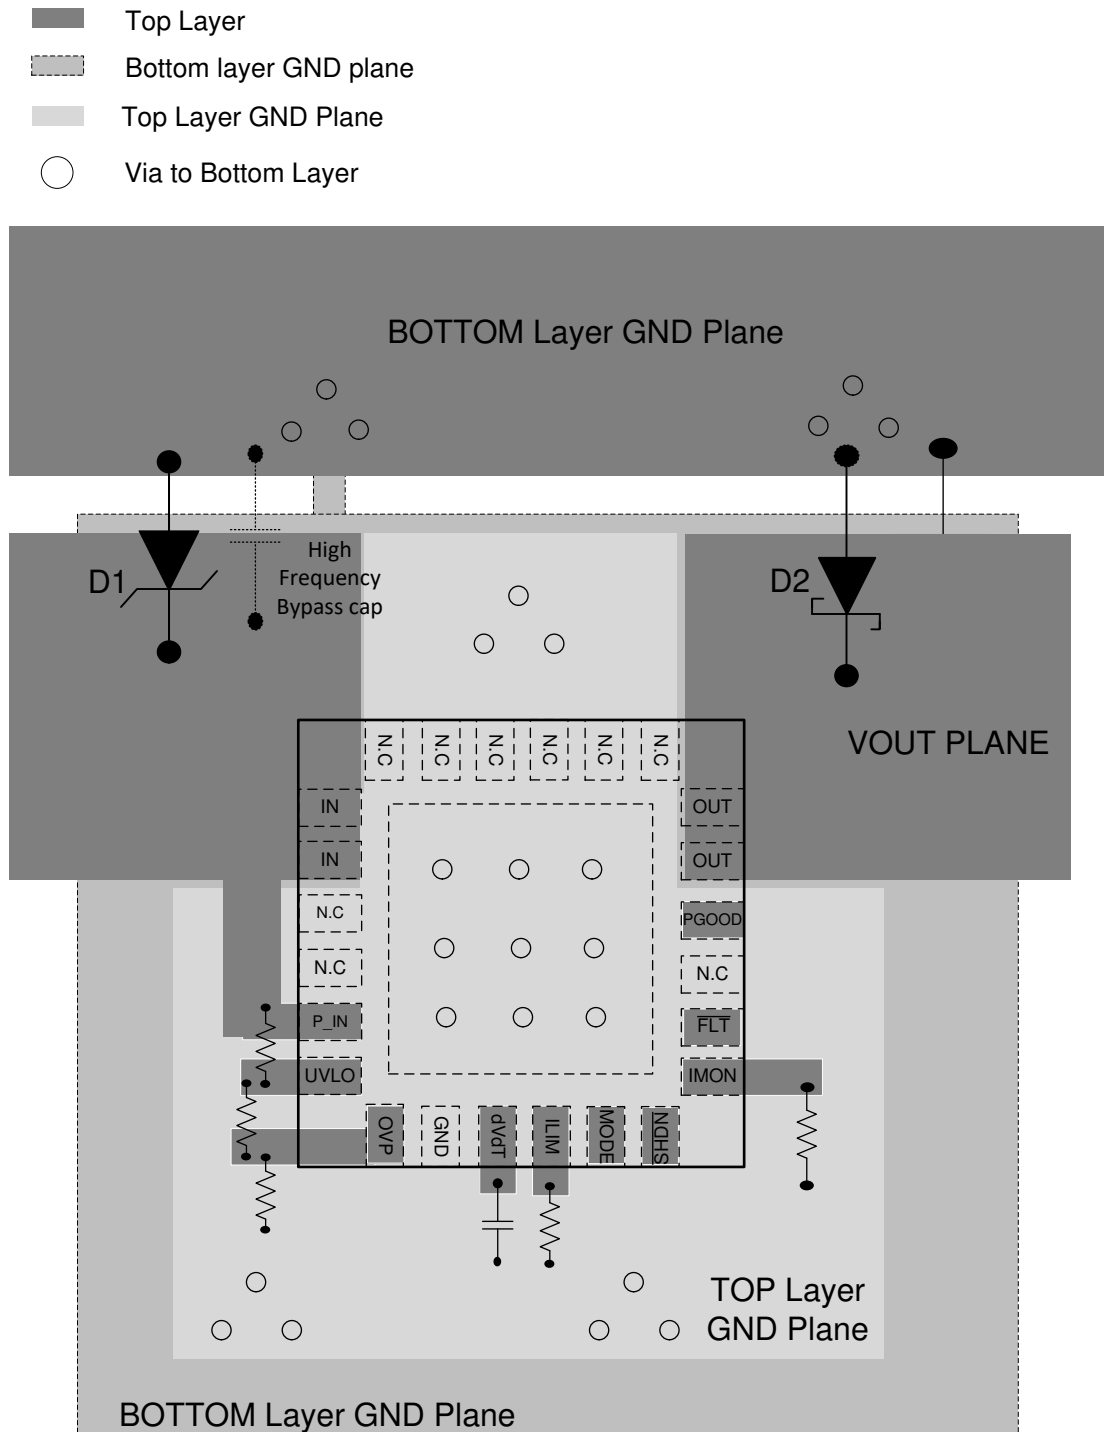
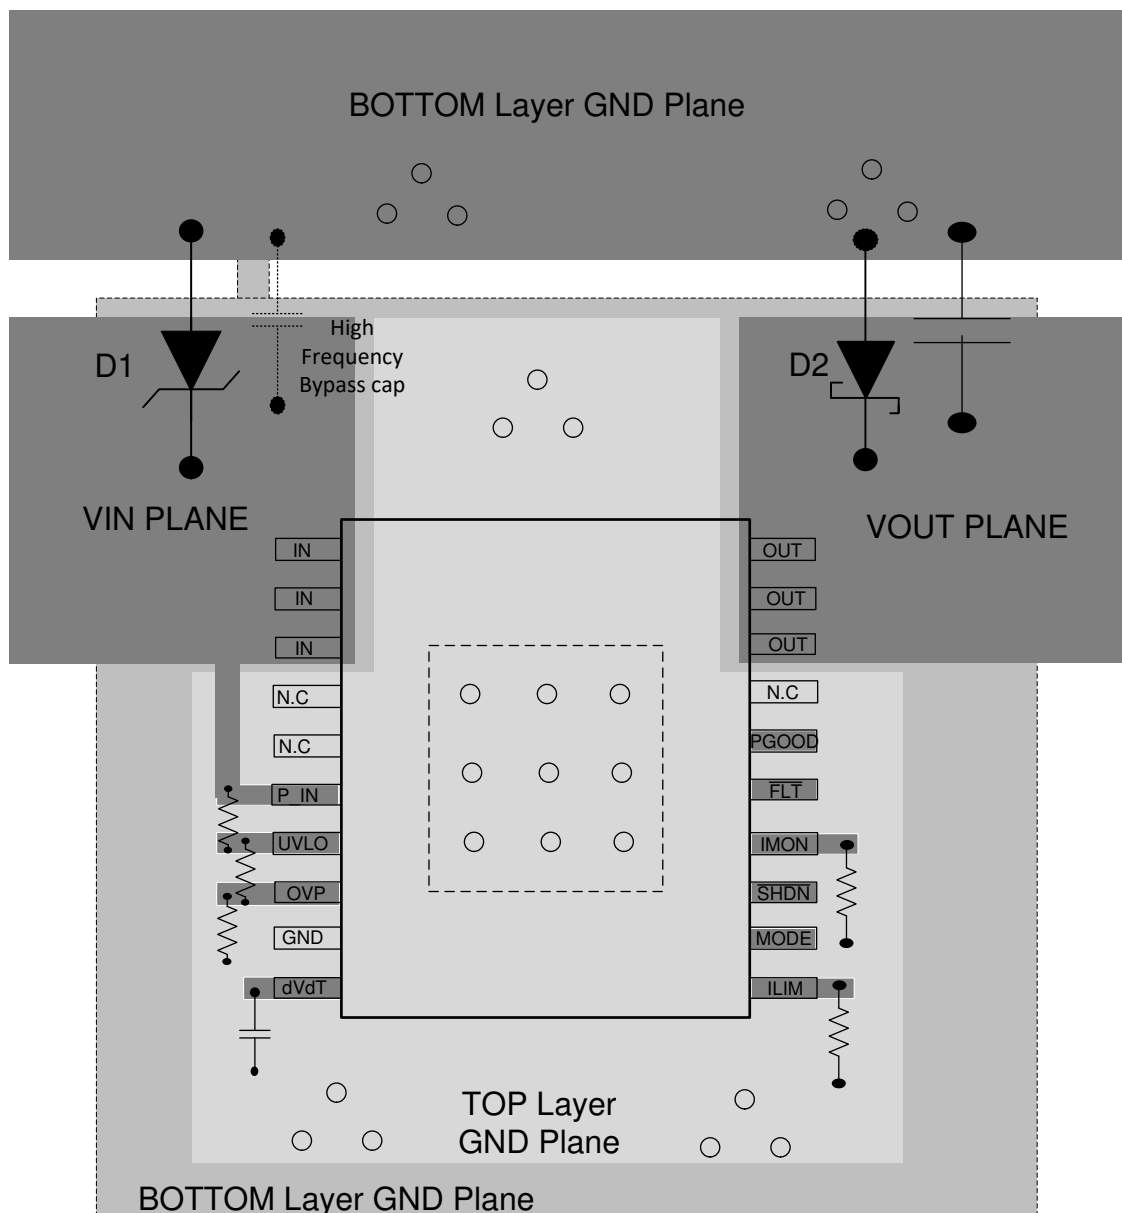

Figure 39. PCB Layout Example with QFN Package with a 2 Layer PCB
Figure 40. Typical PCB Layout Example with HTSSOP Package with a 2 Layer PCB
- High current carrying power path connections must be as short as possible and must be sized to carry at least twice the full-load current. See Figure 39 and Figure 40 for a typical PCB layout example.